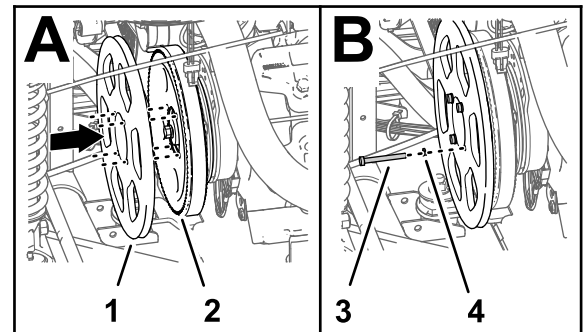

Figure 180
- Align the holes in the pulley for the alternator (kit) with the holes in the pulley for the sprayer pump (Figure 180).